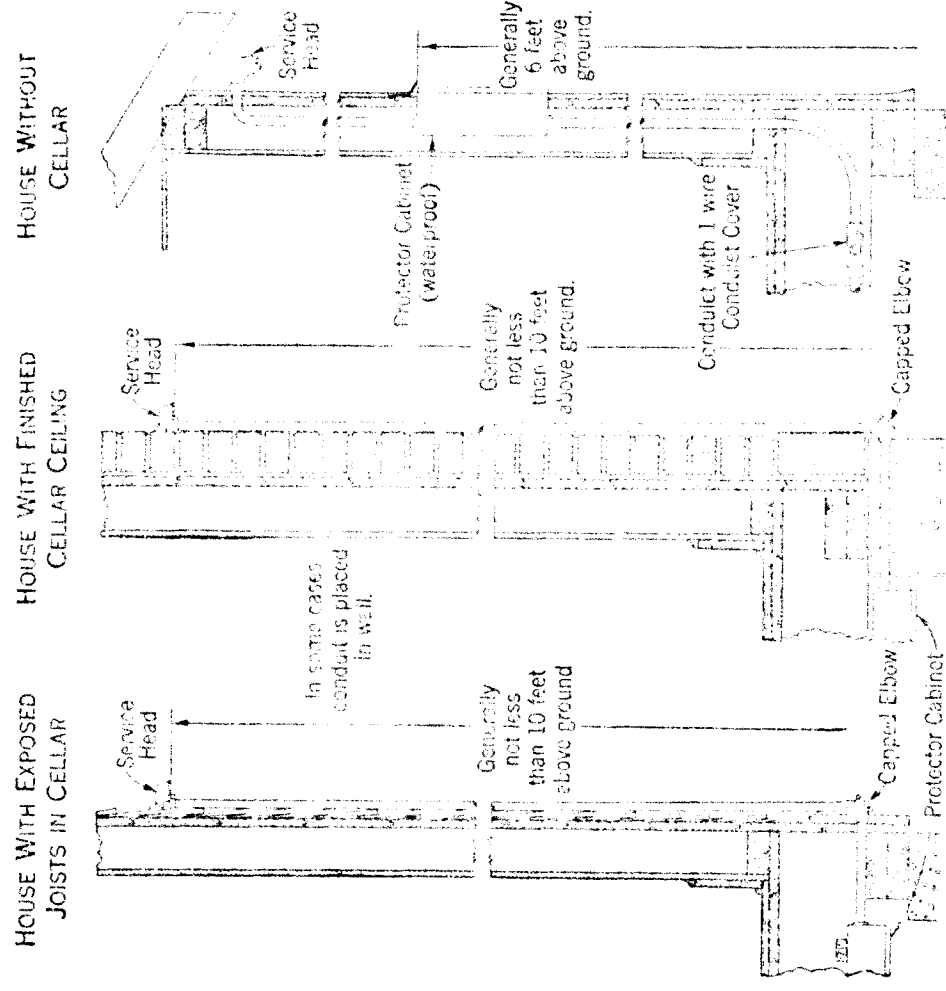

Fig. 7.
3.01 The selection of a point of entrance is dependent on the considerations outlined in standard instructions covering the location of telephone, protector or connecting block, and interior and exterior wire runs. Therefore, before selecting a point of entrance make a survey of the premises for the location of such apparatus and wire runs with a view toward selecting a point of entrance which will meet all considerations. In some modern residences, overhead (or underground) service conduits are provided by the owners for running telephone wires. In order that such facilities be used wherever practicable, take especial care to look for them when making the survey. Illustrations of typical installations are shown in Fig. 7.